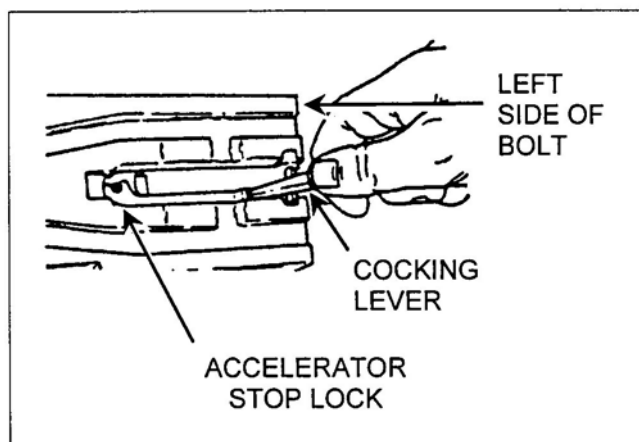

Figure 34. Attachment of the accelerator stop lock.
- (7) Turn bolt over. Place forked end of accelerator stop lock on notched end of accelerator stop.
- (8) Using the wedge-shaped end of the cocking lever, press down on the flat end of the accelerator stop lock, and move the cocking lever into the groove on the left side of the bolt (Figure 34).